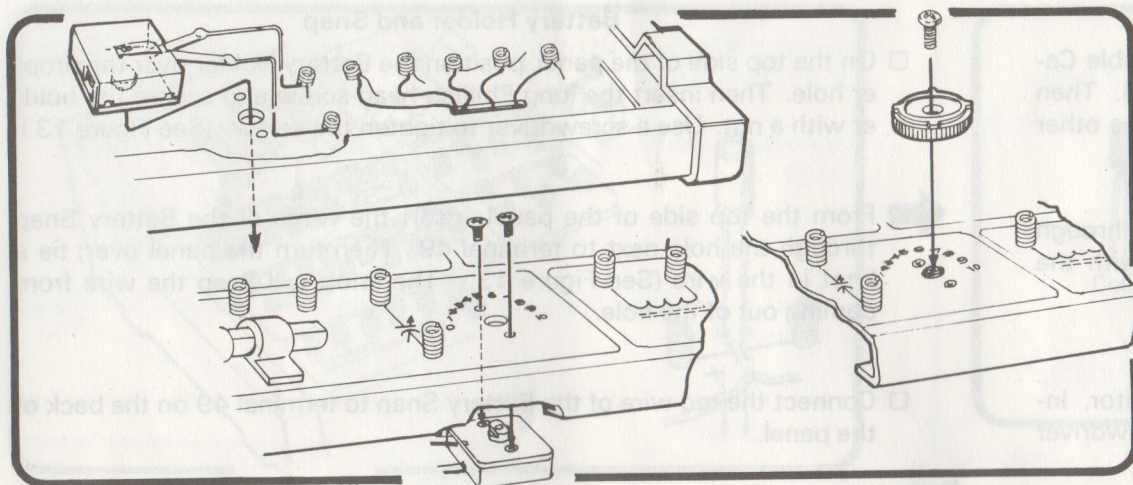

FIGURE 10
- ☐ On the bottom side of the cardboard panel, position the Variable Capacitor getting its two terminals facing terminals 42 and 43. Then connect the wire of its shorter terminal to terminal 42, and the other wire to terminal 43. (See Figure 10.)
- ☐ Turn the panel over and insert two short Phillips-head screws through the holes in the cardboard panel. Then fasten the screws with the screwdriver. (See Figure 10.)
- ☐ Mount the Turning Knob onto the shaft of the Variable Capacitor. Insert the short, Phillips-head screw and fasten it with the screwdriver as shown in Figure 10.